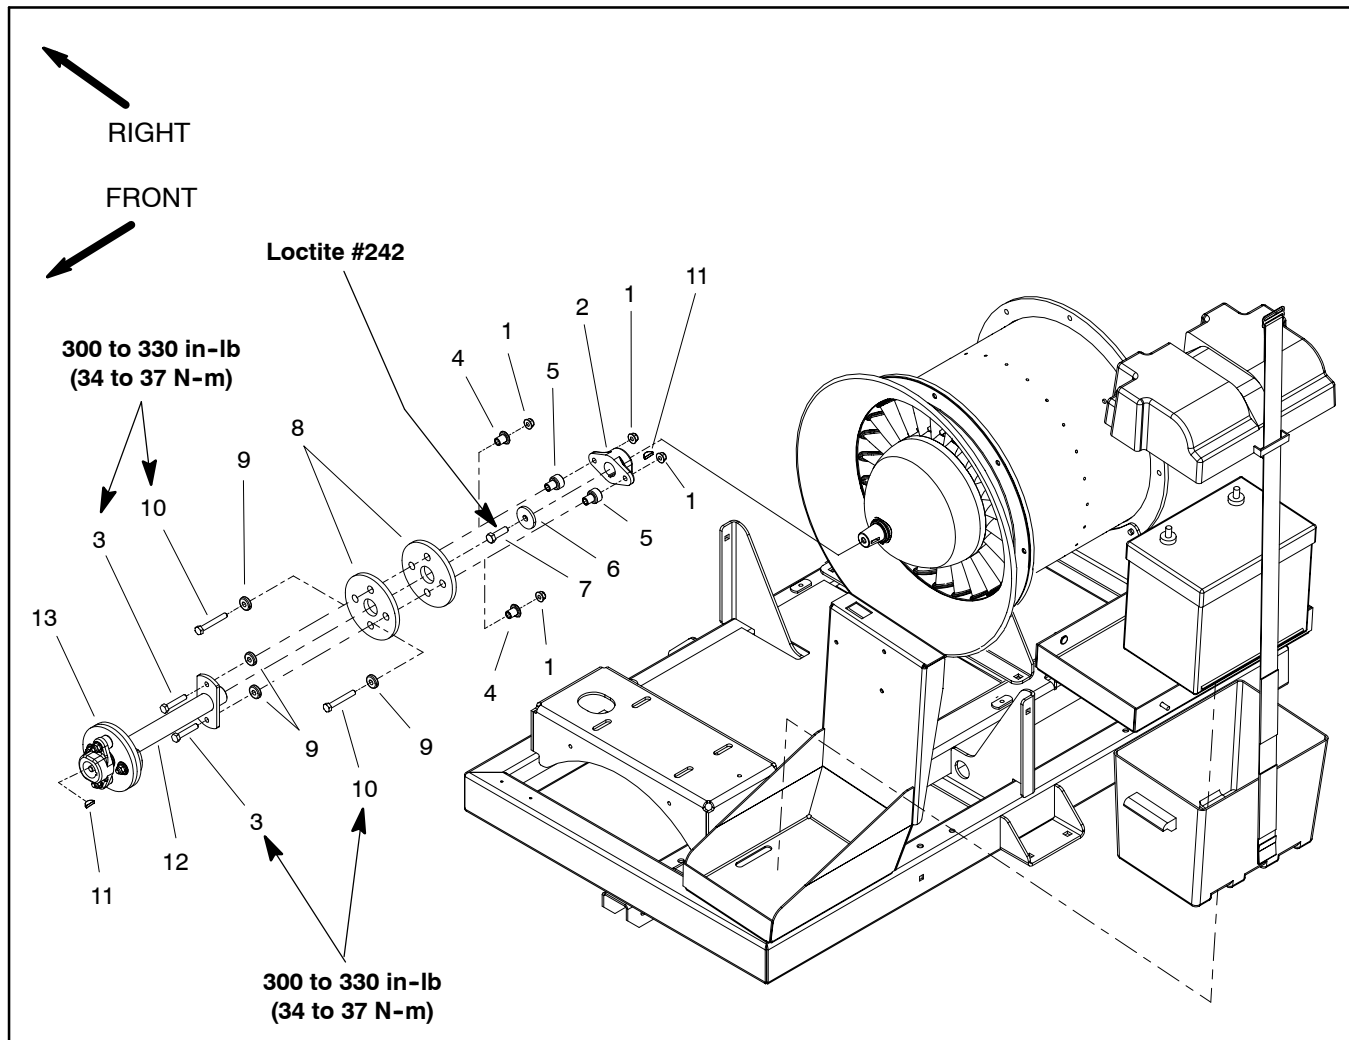
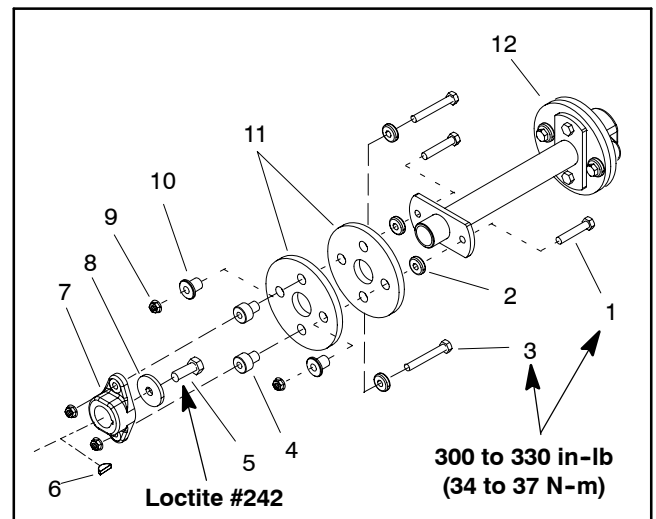

Figure 2
Figure 3
**NOTE:** The coupling assembly between the blower shaft and drive shaft (item 12) is illustrated in Figure 2. The coupling assembly (item 13) used between the drive shaft (item 12) and engine shaft is composed of the same components (Fig. 3).
## Removal (Fig. 2)
6. Disassemble drive couplings from drive shaft using Figures 2 and 3 as guides. Note differences in coupling spacer flange thickness for assembly purposes.
## Installation (Fig. 2)
3. Secure drive couplings to drive shaft with cap screws and lock nuts using Figures 2 and 3 as guides.